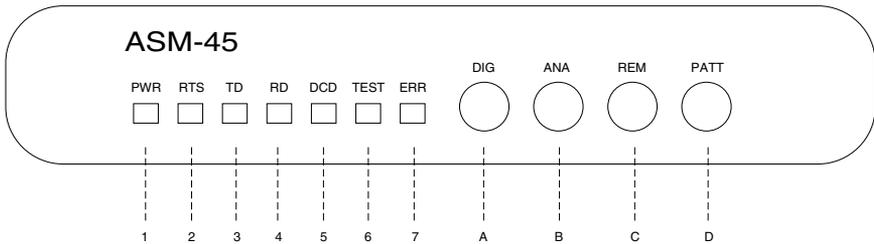

Figure 4-1. SHM-768K Front Panel.
All controls (push-button switches) and LED indicators are located on the SHM-768K front panel. Their functions are described in Tables 4-1 and 4-2. The numbers under the heading "Item" in Tables 4-1 and 4-2 correspond to the identification numbers in Figure 4-1.
Table 4-1. Control Functions. (The item labels in this table correspond to Figure 4-1.)
Table 4-2. Indicators. (The item labels in this table correspond to Figure 4-1.)
- Step A: Press the ANA (Analog Loopback) button on the front panel (Figure 4-1). (This test can also be activated via the pin on the DTE interface.) The TEST LED should turn on. The SHM-768K transmit output is now connected to its own receiver.